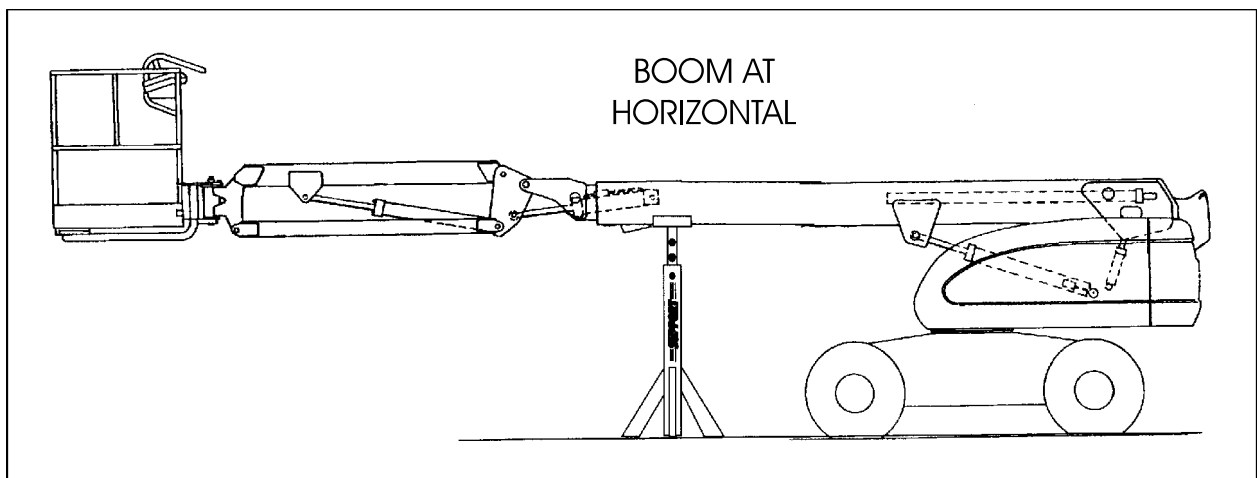

Figure 5-14. Boom Positioning and Support, Cylinder Repair (S Models)
2. Shut down engine. Support main boom basket end with a prop. See Figure 5-14., Boom Positioning and Support, Cylinder Repair (S Models).